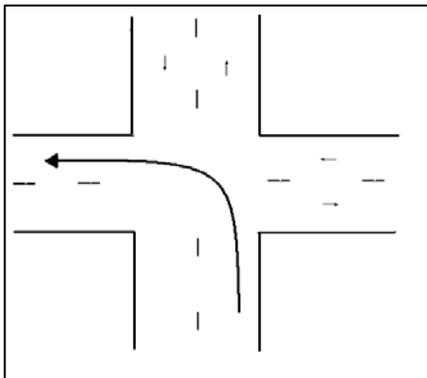

Figure 2-13
D. Left Turns (See figures 2-13 and 2-14):